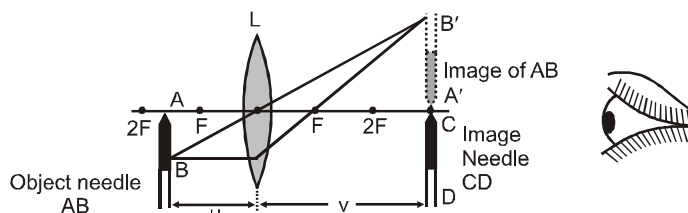

Fig. 2 Two pin method for determining the focal length  $f$  of a convex lens.
- Shift the position of the object needle AB to a distance greater than  $2f$  from the lens. Look from the other side of the lens along its principal axis near the end of the bench. If the setting is correct, an inverted, real image  $A'B'$  is seen. Now adjust the position of the second needle CD such that parallax between the image of the object needle and the image needle is removed. The position of the second needle is so adjusted that parallax is removed tip to tip as shown in fig.2.